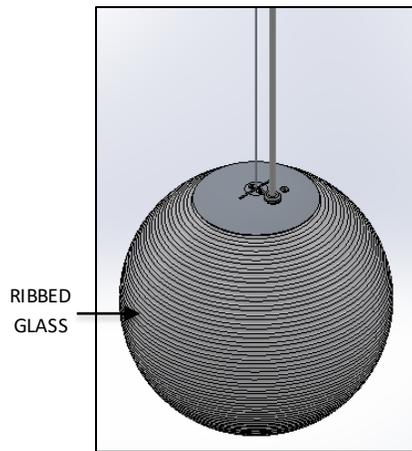

FIG.2 RIBBED GLASS LUMINAIRE
1. RIBBED GLASS LUMINAIRE with CORD & AIRCRAFT CABLE attached. (Pre-assembled as shown in FIG. 2)